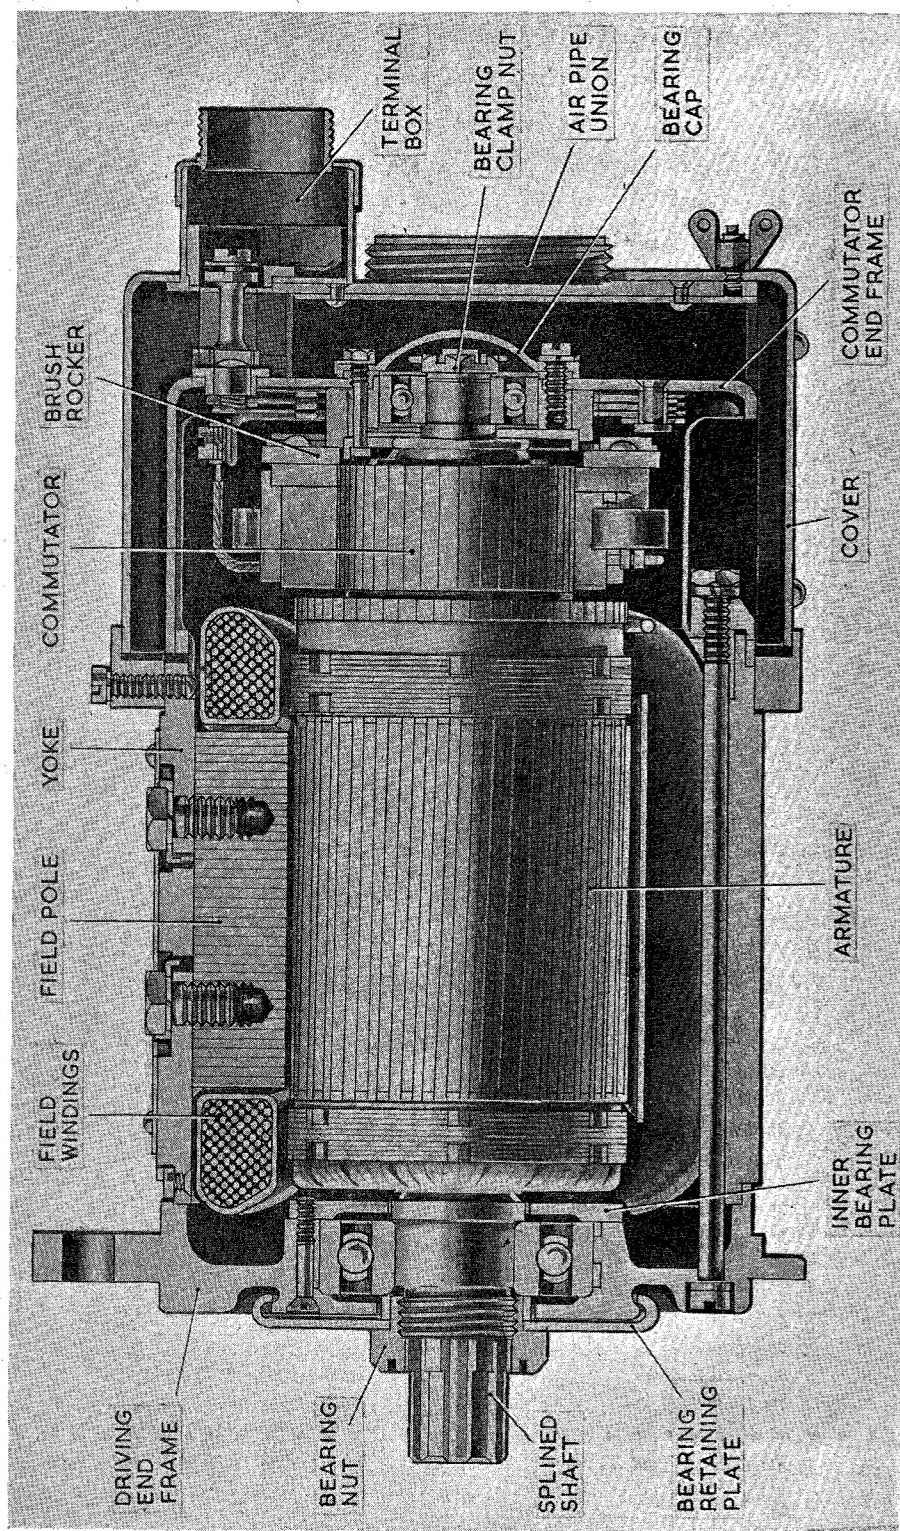

Fig. 1. Sectional view of generator
1. The generator, Type LX, is a self-excited, 4-pole, shunt-wound machine, and is driven through gearing from the aircraft engine. A sectional drawing is given in fig. 1.